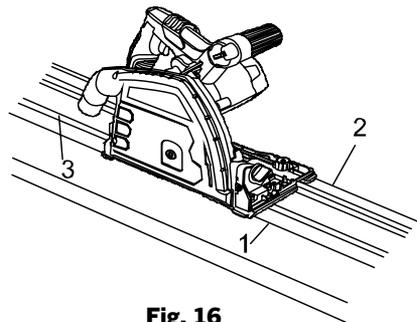

Fig. 16
6. Place the saw on the guide track, the rear cover of the saw near the alignment marks (2), the blade near the cutting line (1). The track features two low friction strips (3) to allow smooth movement of the saw along the track (Fig.16).